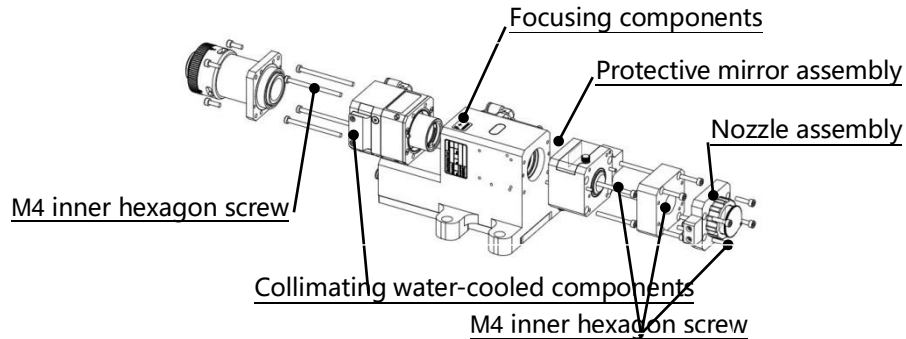

Figure 6.7 - Lens taking
- Place the laser head horizontally. As shown in Figure 6.7, remove the locking screws from bottom to top;
- As the sequence shown in Figure 6.7, reassemble and lock the screw.